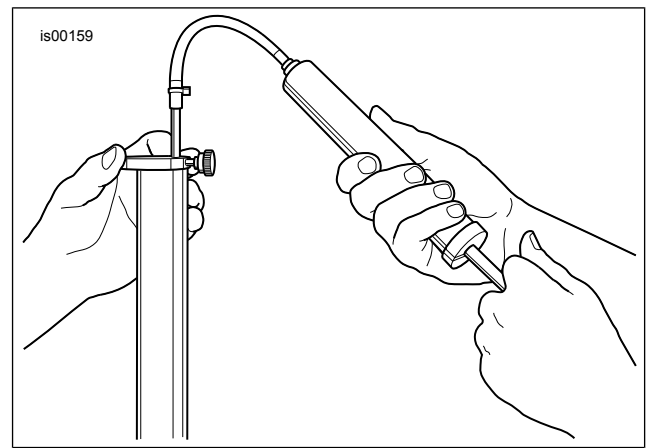

Figure 6. Remove Excess Fork Oil
- d. See Figure 6. Insert rod into top of fork tube until metal ring rests flat on top of fork tube.